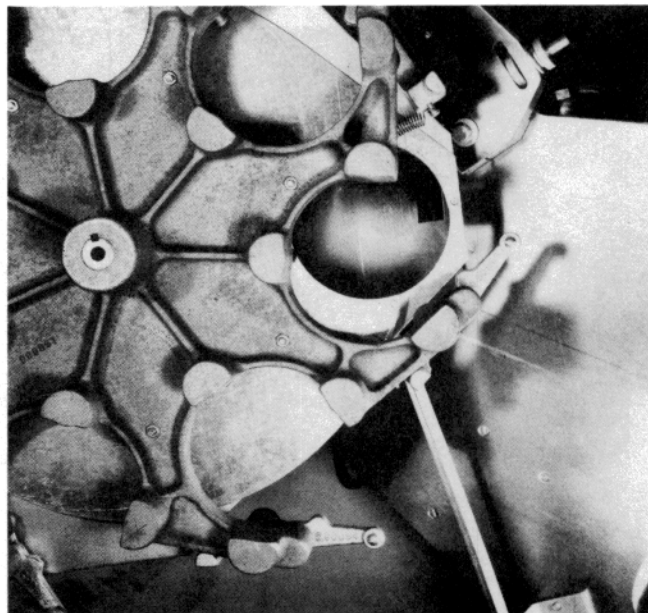

Figure 91 — Magazine
- 9.1 When looking down on the empty magazine the target holes in the magazine the magazine ramp and the magazine floor plate should line up as shown in Figure 91 when trap is in the uncocked position. If the holes are not lined up in this manner the magazine gear and the magazine drive gear are out of phase. The phase is correctly set by the following procedure: